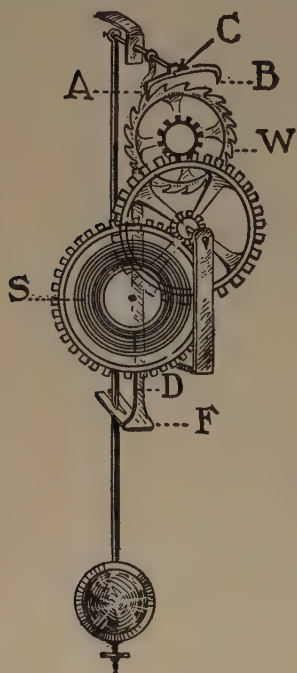

FIG 339.—How the escapement and pendulum work together.
**The pendulum clock.** The really successful clock came about the year 1700. It resulted from combining the falling weight for power, the swinging pendulum (Galileo's discovery) for regularity of motion, and the *dead-beat escapement* invented by George Graham, to prevent the pendulum from coming to rest. The escapement consists of a toothed wheel *W* and a rocker arm *ACB*, Fig. 339. The inside of pallet *A* and the outside of pallet *B* coincide with the arc of the circle of which *C* is the center. The falling weight or, in modern clocks, the spring, causes the wheel *W* to turn.